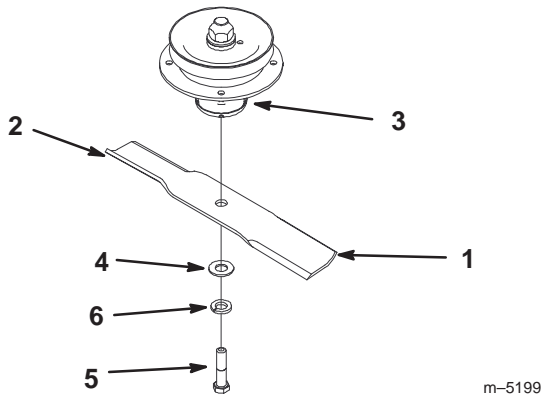
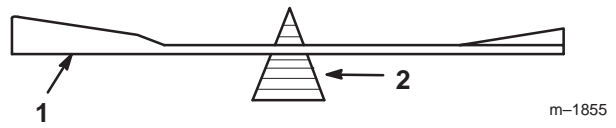

Figure 63
Figure 65
1. Hold the blade end using a rag or thickly-padded glove. Remove the blade bolt, washer, lock washer and blade from the spindle shaft (Fig. 63).
2. Check the balance of the blade by putting it on a blade balancer (Fig. 65). If the blade stays in a horizontal position, the blade is balanced and can be used. If the blade is not balanced, file some metal off the end of the sail area only (Fig. 63). Repeat this procedure until the blade is balanced.
1. Install the blade onto the spindle shaft (Fig. 63).
Important The sail part of the blade must be pointing upward, toward the inside of the mower to ensure proper cutting (Fig. 63).
2. Install the flat washer, lock washer and blade bolt (Fig. 63). Torque the blade bolt to 85–110 ft-lb (115–140 N•m).